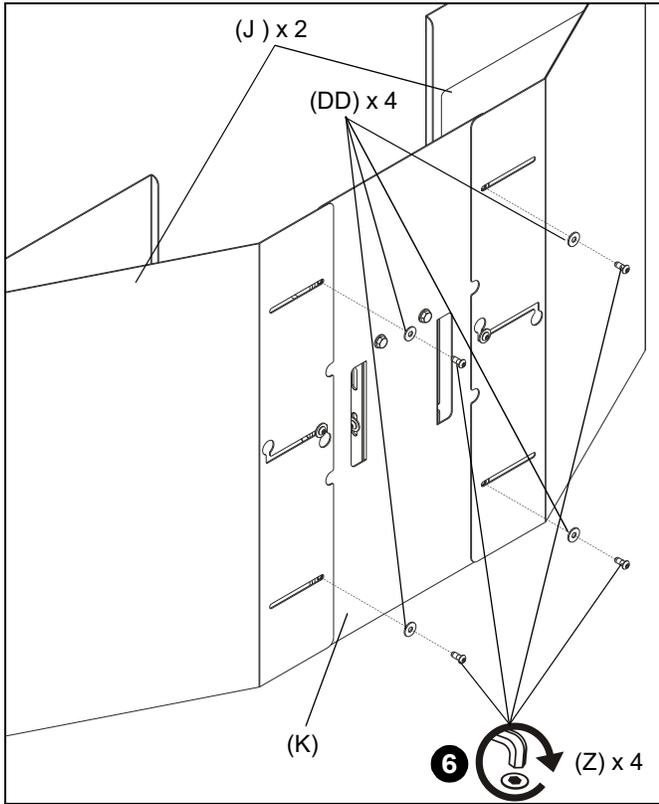

Figure 13
- Use four 1/4-20 x 5/8" button head cap screws (Z) and four 1/4" washers (DD) to secure two side wind shields (J) to center wind shield (K). (See Figure 13)
- Tighten all six screws (Z).